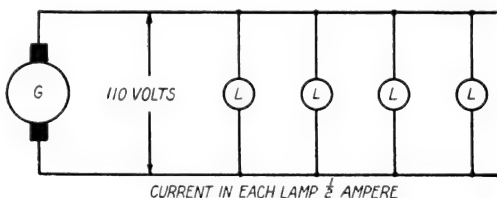

Fig. 18. Four Lamps Connected in Parallel
**Problem 8.** In Fig. 18, each lamp draws  $\frac{1}{2}$  ampere and the generator voltage is 110. What is the voltage across each lamp?
**Problem 9.** What current is flowing through the entire circuit (Fig. 18)?
**Problem 10.** What is the resistance of each lamp (Fig. 18)?
**Problem 11.** What is the resistance of the entire circuit (Fig. 18)?
4. If the  $\frac{1}{2}$ -ampere lamps in Fig. 18, page 127, were replaced by lamps each having a resistance of 55 ohms, how much current would the 110-volt generator have to deliver to the lamps?